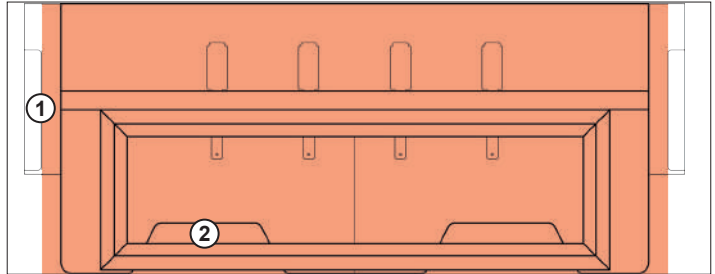
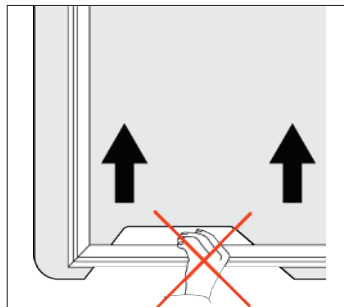

Abb. 46: Working range of pantograph
Abb. 47: Risk of crushing against pantograph frame (Work table recess)
- CAUTION! - The pantograph travels at a very high speed. Do not rest on the work table or lean against the table recesses within the working range of the pantograph (Abb. 46) A collision with the high-speed pantograph can cause bruising and injuries resulting from crushing or shear forces. (Abb. 47).
- Caution! - The pantograph travels at a very high speed. Do not rest on the work table or lean against the table recesses within the working range of the pantograph (*Abb. 46*) A collision with the high-speed pantograph can cause bruising and injuries resulting from crushing or shear forces. (*Abb. 47*).
Keep your hands well away from the insides of supports **(1)**, the table recesses **(2)** and pantograph guide slot **(3)** because of the risk of injury. Also see (*Abb. 47*).